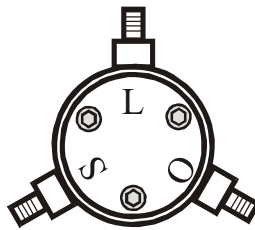

Figure 3 Calibration Standard from Agilent 85033E 3.5 mm Calibration Kit
- 8) Next, select **CALIBRATE** softkey with mouse, which will activate another softkey menu. Using mouse, select **1-Port Cal**, which will activate another softkey menu. Confirm the **Select Port** softkey shows **1**. From the Agilent 85033E 3.5 mm Calibration Kit, take the standard (see Figure 3) with the three female 3.5 mm connectors. Connect the open “O” standard to the 3.5 mm male connector at the end of the coaxial TL by hand to ‘finger tight.’ Then, use the calibrated **5 in-lbs torque wrench** on the coaxial TL SMA connector and a **5/16” open wrench** to support the open standard to finish tightening, done when torque wrench ‘breaks.’ Using the mouse, click the **OPEN** softkey. The VNA will beep and place a check mark to the left of the **OPEN** softkey to indicate that the necessary data was collected. Using the wrenches, disconnect the open “O” standard. Repeat this process for the short “S” and load “L” standards. [Note: You may repeat any of these steps, new measurements will simply overwrite the old ones. Furthermore, these measurements can be done in any order.]